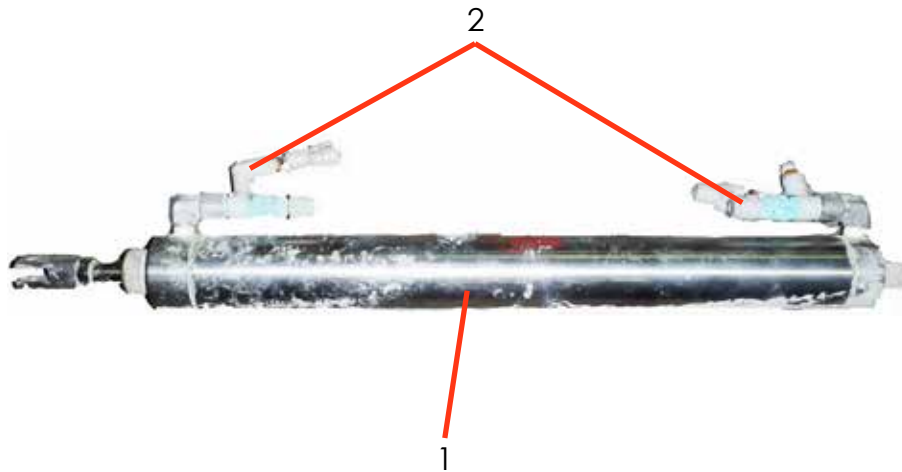

Figure 5
5. Figure 5 - Clean the areas around the cylinder fittings. Remove and discard old fittings (2).